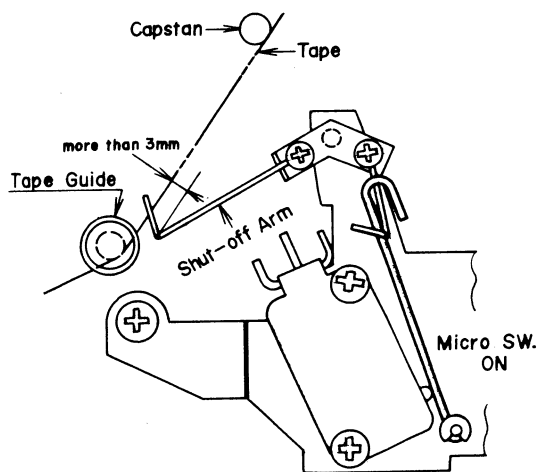

Fig. 1-16
- Return shut off switch to OFF position and move gently by hand. Confirm that the micro switch is turned ON at a distance of more than 3 mm before the shut-off arm reaches the tape surface (Refer to Fig. 1-16).